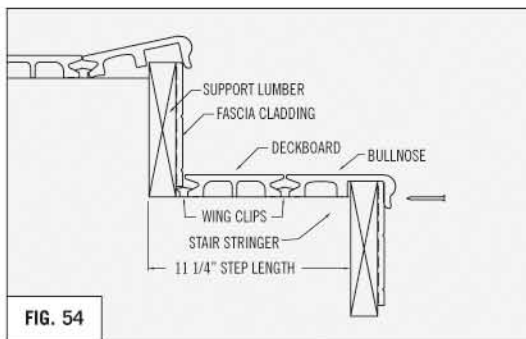

FIG. 54
- Cut bullnose to length and fit under last row of Wing-clips. Snap bullnose into place over support lumber and fascia cladding. (REFER TO FIG. 54)
- Pre-drill holes every 24" into the lower lip of the bullnose and through the fascia cladding. Slot all holes in the bullnose lip to allow for expansion and contraction. (REFER TO FIG. 54)